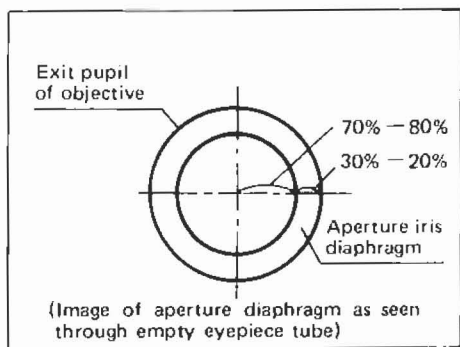

Fig. 23
- 2) Remove the eyepiece, and looking at the exit pupil of the objective through the empty eyepiece tube, adjust the opening of the diaphragm. Generally, it is preferable to stop down the aperture diaphragm to 70% to 80% of the objective N.A. (Fig. 23)